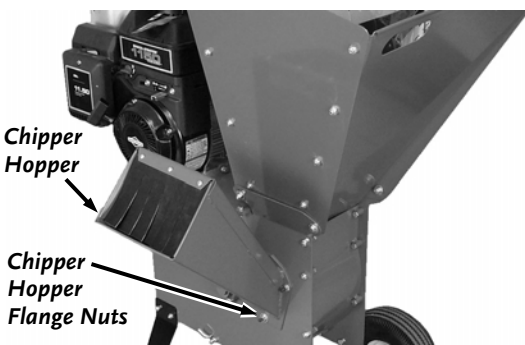

Figure 4
5. Position the Chipper Hopper and secure with Locknuts and Washers using a 1/2" Wrench (**Figure 4**).